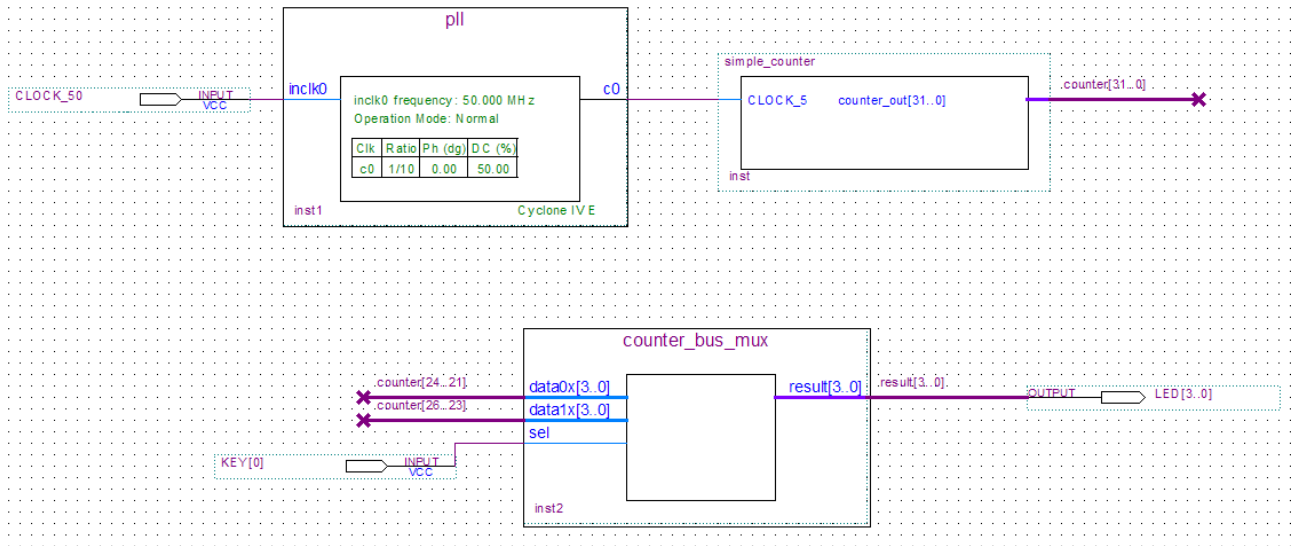

Figure 6-40 Adding the KEY [0] Input Pin
24. Rename the input pin as KEY [0] (see Figure 6-40).